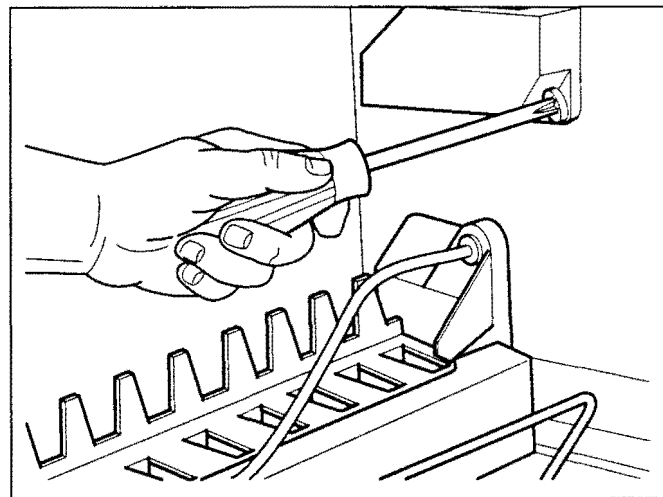

Figure 2-22. Drawer Closer
4. Remove both drawer closers by removing two mounting screws (Figure 2-22).
3. Remove both drawer closers by removing two mounting screws (Figure 2-22).
5. Remove both drawer closers by extracting two mounting screws (Figure 2-22).